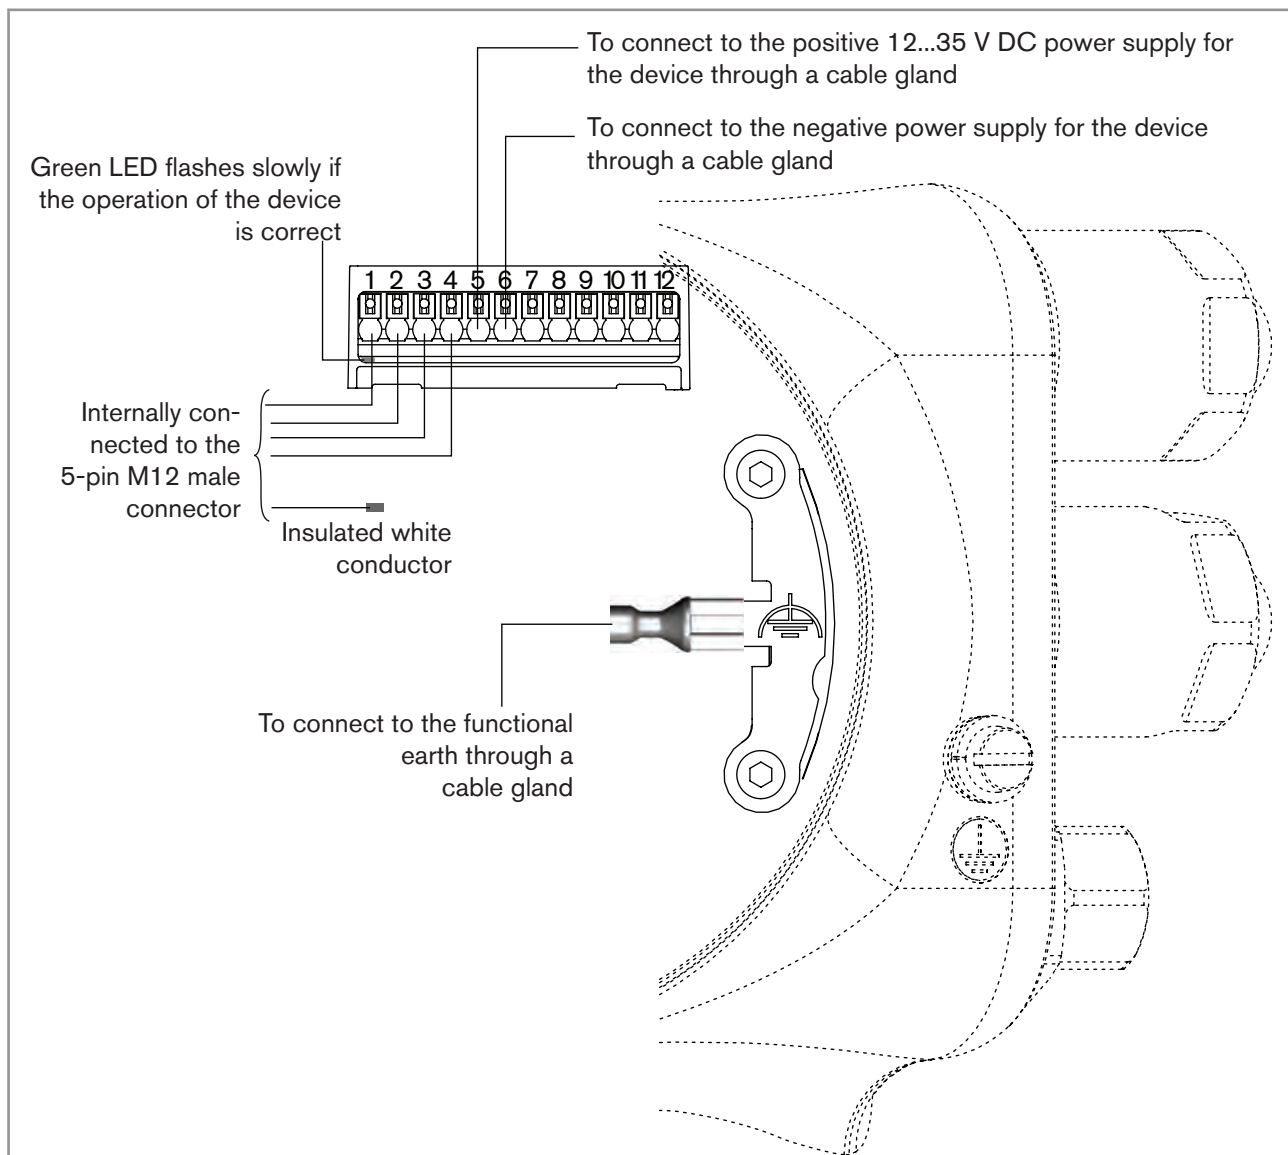

Fig. 29: Connecting the 12...35 V DC power supply through the M20x1,5 cable glands
- either to the functional earth plate in the transmitter housing (see Fig. 29 in chpt. 8.14),
3. Connect the power supply as shown in Fig. 29.